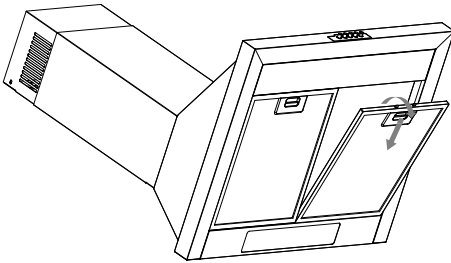

Fig.11
- Removing the filters according to Fig.11.
- Remove the filters see Fig.11.